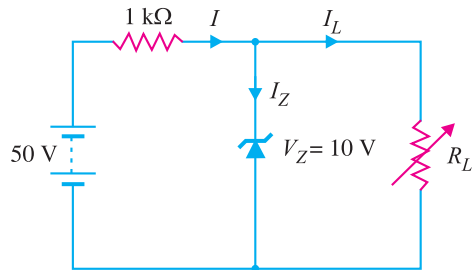

Fig. 6.80
15. In the circuit shown in Fig. 6.80, determine the range of R_L that will result in a constant voltage of 10 V across R_L . [250 Ω to 1.25 kΩ]